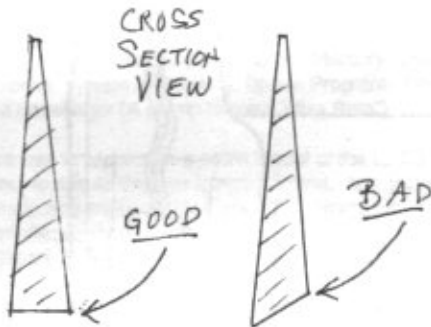

Figure 4
- 3) Cut and sand, making sure the leading and trailing edge angles are correct. (see figure 4).